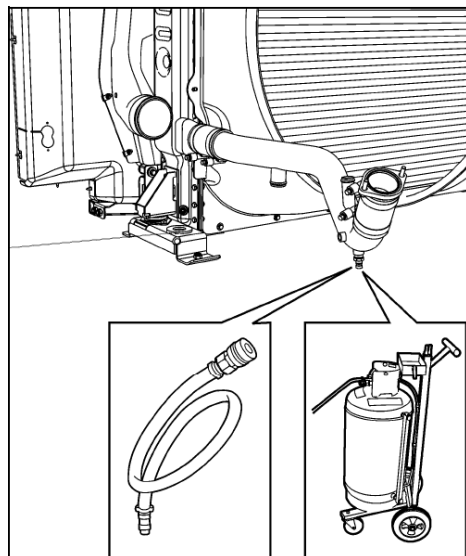

FIGURE 3 : COOLANT DRAIN PLUG
- c) Connect coolant extractor (FIGURE 3). Use coolant extractor to drain the coolant from the engine. An alternate method is to unscrew the drain plug and drain the coolant into a suitable container using a drain hose.